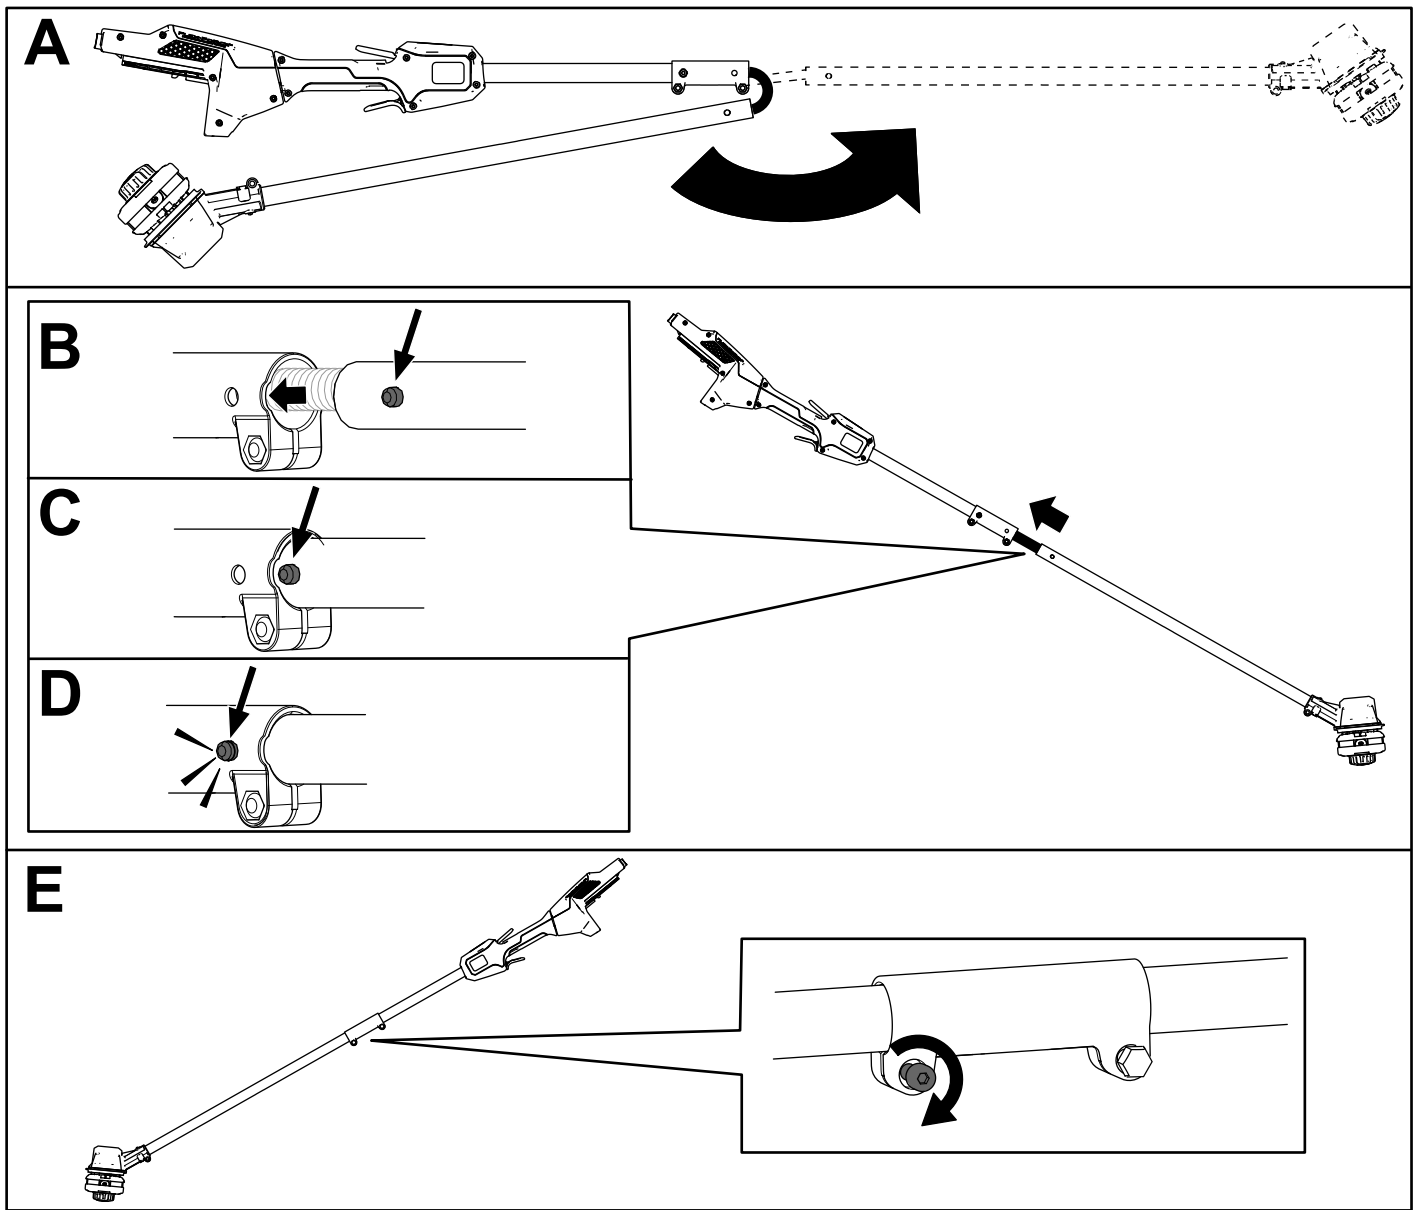

Figure 3
1. Unfold the shaft (A of Figure 3).
2. Align the locking button on the lower shaft with the slotted hole on the upper shaft and slide the 2 shafts together (B and C of Figure 3).
Note: The locking button clicks into the slotted hole when both shafts are secured (D of Figure 3).
3. Using the provided Allen wrench, tighten the screw on the shaft connector until it is secure (E of Figure 3).